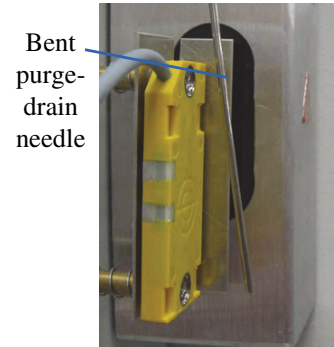

Figure 10.7. Purge-drain needle bent to provide room for the SOS
2. Bend the purge-drain needle forward slightly about six inches above the bottom to provide room for the SOS. With the spurge vessel installed, the bent needle should be positioned in front of the vessel (Figure 10.7).